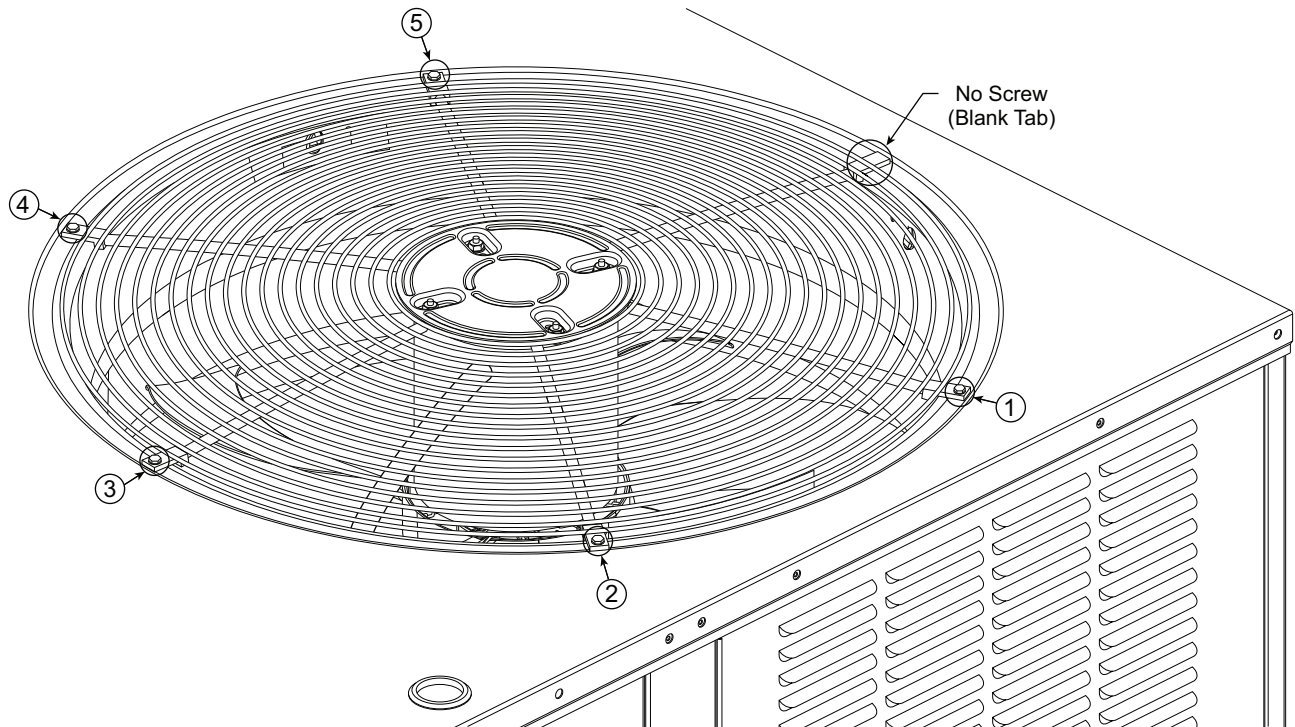

Fig. 33 – Condenser-Fan Assembly – Screw Pattern Sequence
6. Replace condenser-fan assembly. When replacing the condenser-fan assembly follow the screw pattern sequence shown in Fig. 33. The screws must be replaced in the sequence shown in the figure.